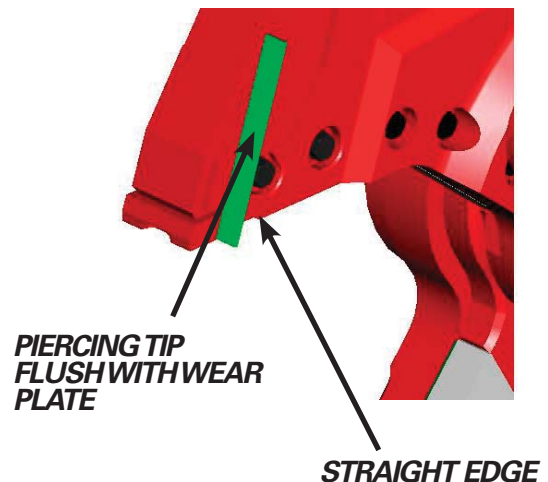

FIGURE 5-27
2. Now do the same on the other side of the upper shear. The tip should be flush with the front wear plate (see **Figure 5-27**). If there is a gap, this area needs to be built up.